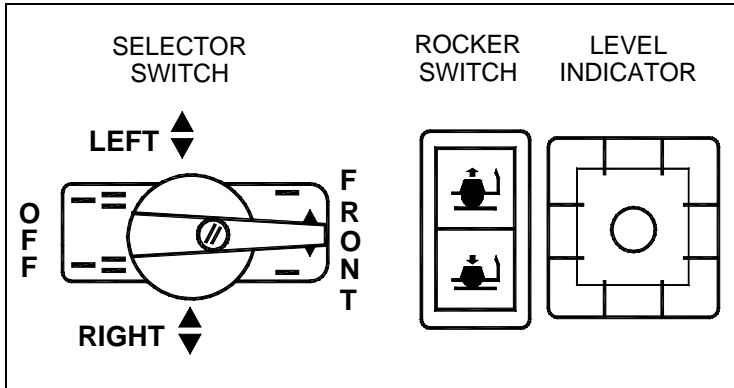

FIGURE 3 : VEHICLE LEVEL SELECTOR SWITCH
1. Set the vehicle level selector switch to the "OFF" position (figure 3).